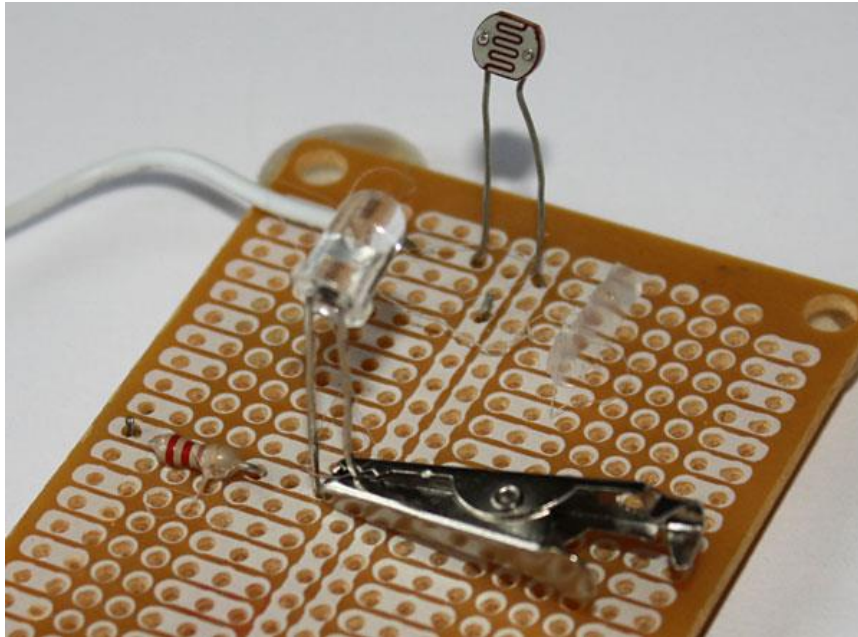

Figure 3. By absorbing heat, the crocodile clip will reduce the heat that flows to the component, helping to prevent damage.
- ❖ If you are soldering a wire (called the *lead*) onto a PC board (on the *track*), it should have a volcano shape. See Figure 3.